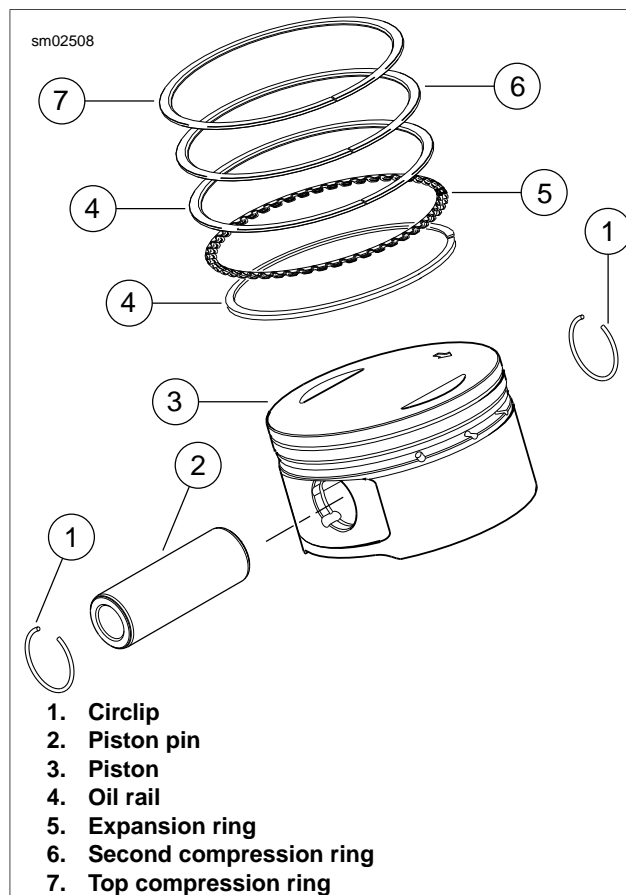

Figure 3-105. Piston Assembly
1. See Figure 3-105. Carefully remove top (7) and second (6) compression rings using the proper piston ring expander (Snap-on PRS8).
2. Using your fingers, remove the oil rail expansion ring (5) from the third ring groove. Remove top and bottom oil rails (4).